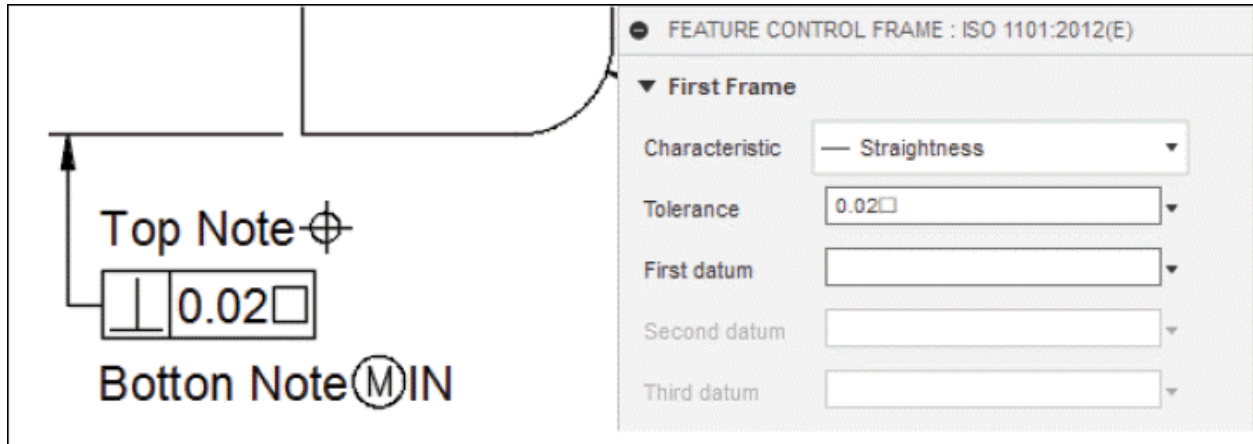

Figure-101. Adding tolerance
- Click in the **Tolerance** edit box and enter the value of tolerance. You can also add the required symbol; refer to Figure-101.